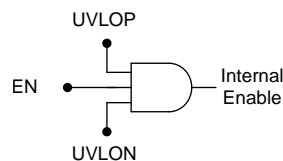

Figure 64. Simplified Turn-On Control
Figure 64 and Table 2 describe how the turn-on and turn-off times of both LDOs (respectively) is controlled by setting the enable circuit (EN) and undervoltage lockout circuit (UVLOP and UVLON).